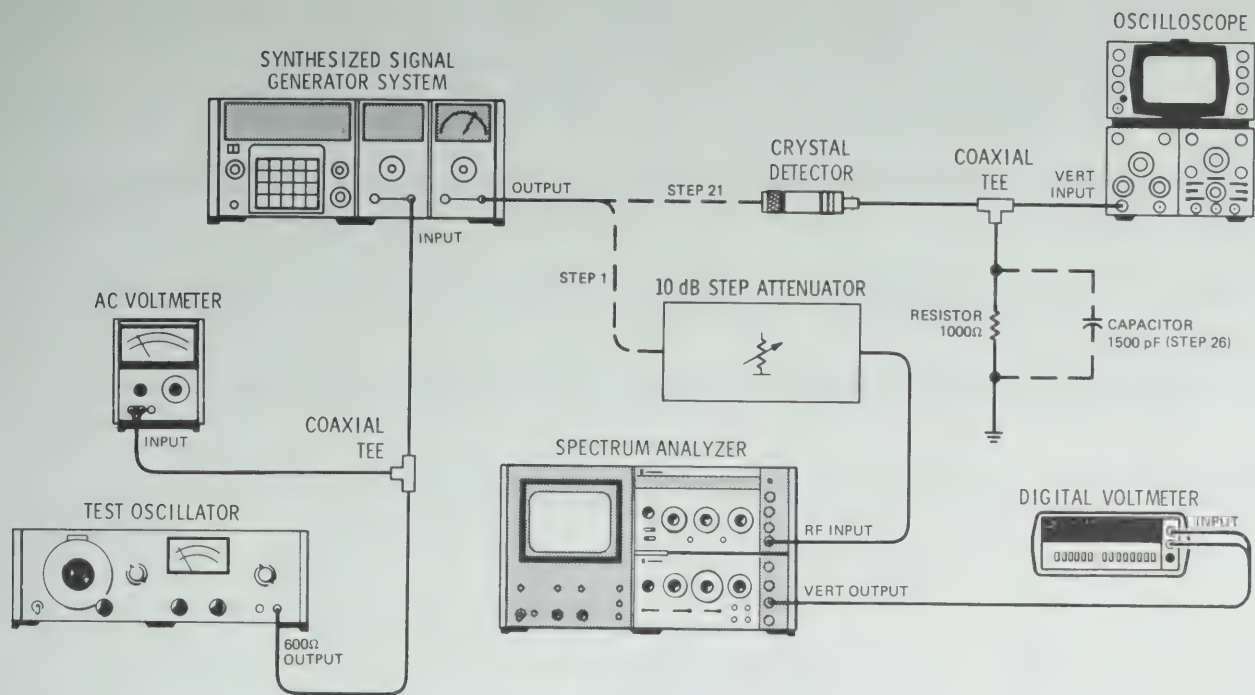

Figure 4-6. Amplitude Modulation Depth and 3 dB Bandwidth Test Setup
1. Connect the equipment as shown in Figure 4-6 (step 1).
26. Install the 1500 pF capacitor as shown in Figure 4-6.